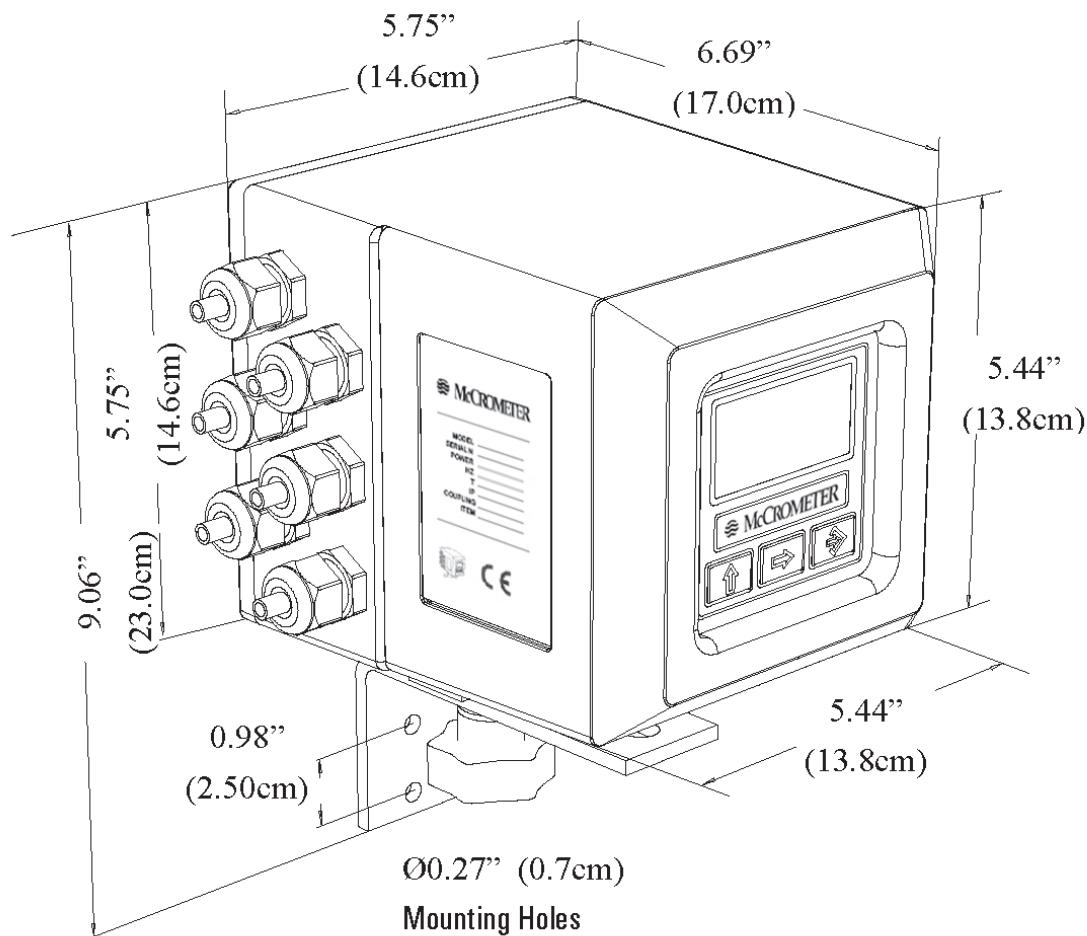

Figure 14: Electronic Converter Dimensions
- 4.10.1. Secure the short restraining rods to the bottom plate with two 3/8" nuts and a locking cotter pin per rod. Install one of the 3/8" nuts above the bottom plate, and one below the bottom plate. See *Figure 14*.
If possible mount the electronic unit in an electronics shed or environmental enclosure. If the unit is mounted outdoors a sun shield is recommended with the unit oriented in a direction to reduce sun damage and ensure readability. The converter is mounted using 2 bolts. See *Figure 14*. A service loop in the cables is required. See *Section 6.2*. This electronic unit is not suitable for installations subject to flooding.